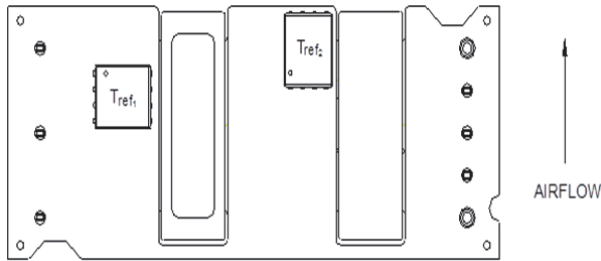

Figure 13.  $T_{ref}$  Temperature Measurement Locations for Open Frame Module.
To provide protection under certain fault conditions, the unit is equipped with a thermal shutdown circuit. The unit will shutdown if the thermal reference point,  $T_{ref}$ , exceed 124 °C & 121 °C respectively °C (Figure 13, typical), but the thermal shutdown is not intended as a guarantee that the unit will survive temperatures beyond its rating. The module will automatically restart upon cool-down to a safe temperature.
The thermal reference points,  $T_{ref1}$ , and  $T_{ref2}$  used in the specifications for open frame modules are shown in Figure 13. For reliable operation these temperatures should not exceed 124 °C & 121 °C respectively